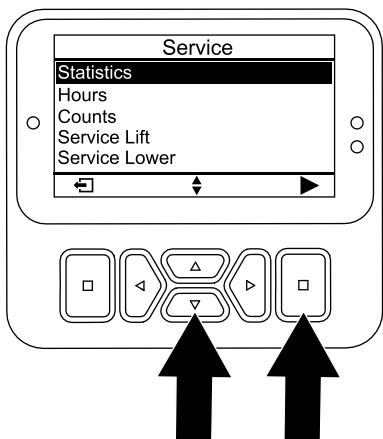

Figure 96
5. In the SERVICE screen, press the down button until the STATISTICS option is selected, then press the select button (Figure 96).